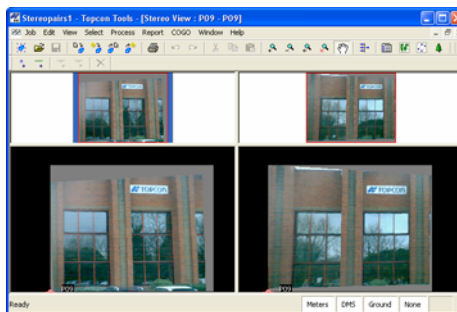

Figure 10-3. Stereo View Window for the Selected Stereopair
- Open the window which will display the selected stereopair in the normalized form (select “*Stereo View*”) (Figure 10-3).